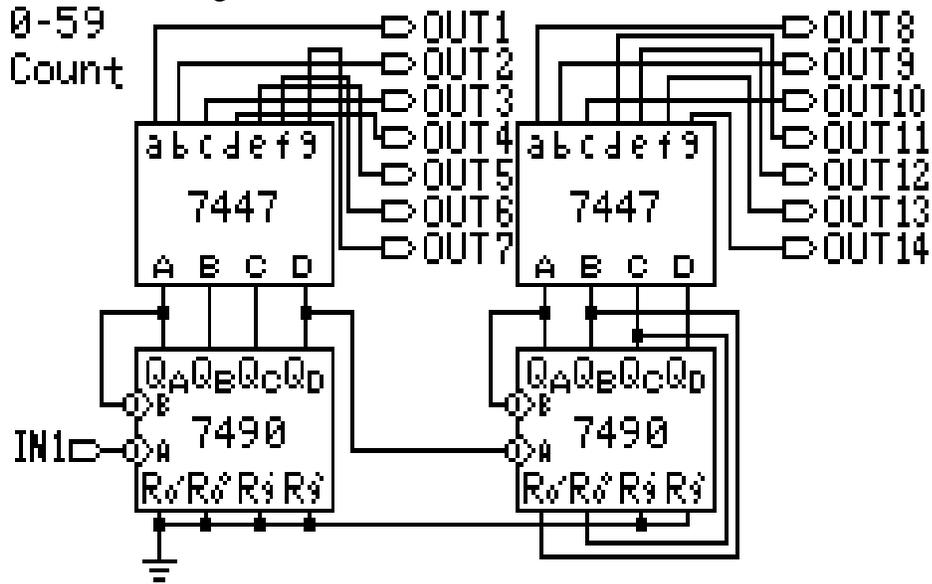

Figure 7-10
1. 0-59 counter circuit, as Figure 7-10.